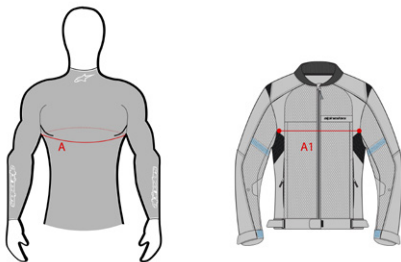

Figure 8
WARNING! Tech-Air® 3 V2 in sizes "S" or larger shall be worn with a Tech-Air® Ready Alpinestars' outer garment of the same size of the System or with any Alpinestars' outer garment that is not Tech-Air® Ready provided that the size of the Alpinestars' outer garment is one size larger than the size of the System or regardless of whether it is an Alpinestars' outer garment or not meets the following criteria: For the chest area, measure the circumference of the chest (A) and the garment width on the chest region (A1). The garment is compatible with Tech-Air® 3 V2 System if $A1 > 0.5 \times A + 12 \text{ cm}$ ($A1 > 0.5 \times A + 4.72 \text{ in}$) (see figure 8 below)